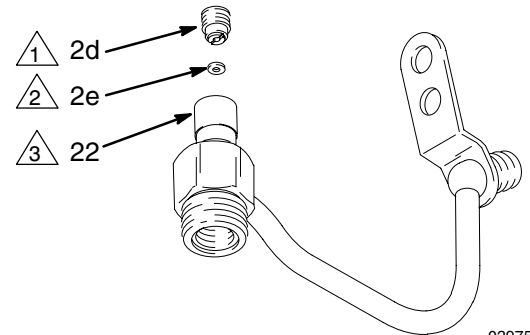

Fig. 13
1. Lightly grease the inner cavities of the fluid housing (22). Install the small seal (2e) so the lips face into the fluid housing cavity. Install the seal retainer (2d) and torque to 30–40 in-lb (3.4–4.5 N.m). See Fig. 13.